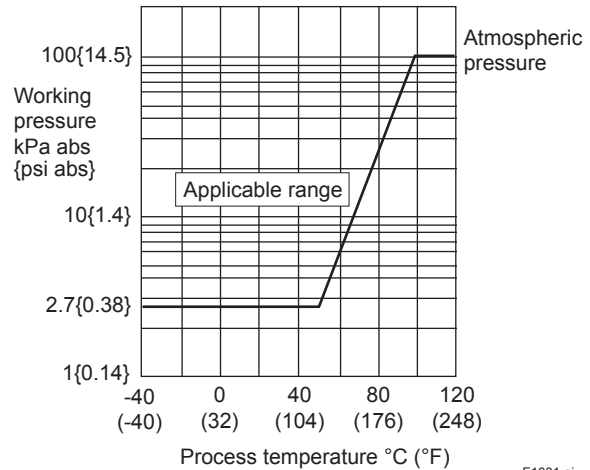

Figure 10.1 Working Pressure and Process Temperature
2.7 kPa abs (0.38 psia) to flange rating (see Figure 10.1)